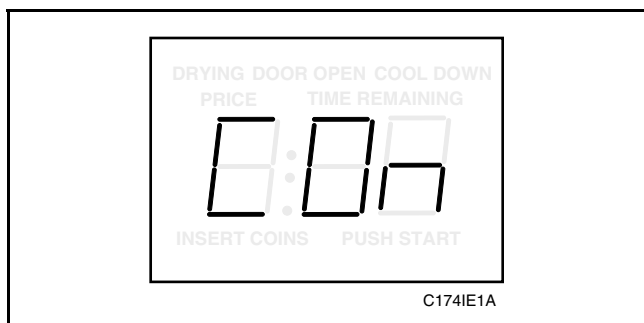

Figure 92
3. Press the LOW TEMP (+) pad **or** the NO HEAT (-) pad to scroll through the programmable options until “COn” appears in the VFD, *Figure 92*.